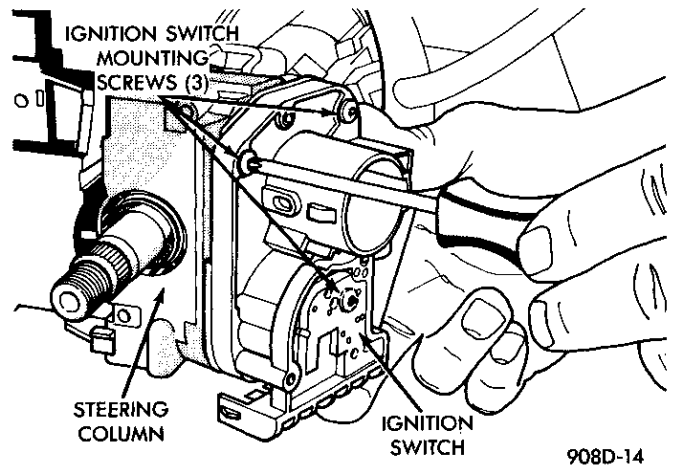

Fig. 2 Ignition Switch Screw Removal
- (4) Remove ignition switch mounting screws (Snap-on torx bit tool TTXR20B0 or equivalent required—Fig. 2).
- (5) Gently pull switch away from the column. Release two connector locks on the 7-terminal wiring connector. Remove the connector from the ignition switch.
- (6) Release connector lock on the Key-In-Switch and Halo Light 4-terminal connector. Remove the connector from the ignition switch.
- (7) Remove the key cylinder from the ignition switch as follows: